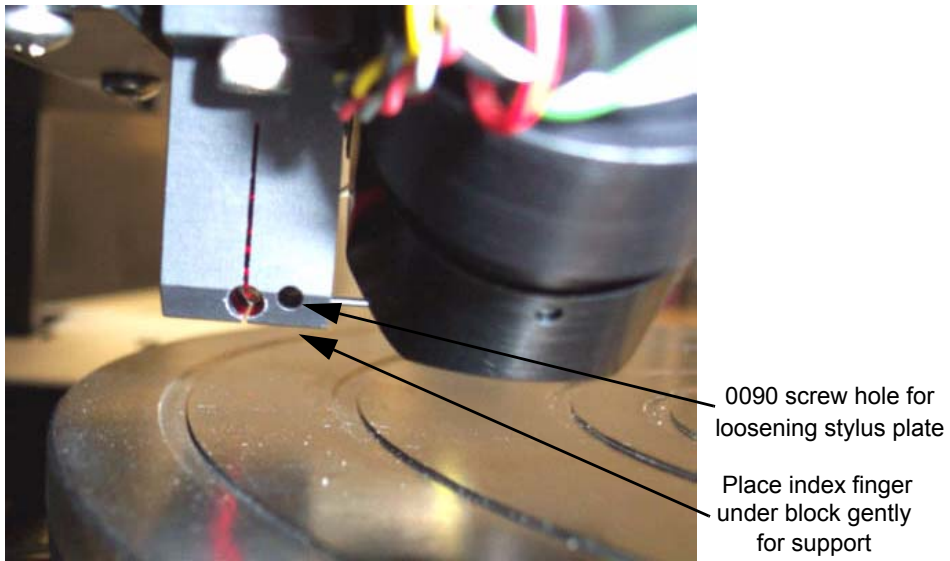

Figure 9.1: The 0090 hole to the right of the slightly larger slotted hole.
3. Figure 9.1 is a picture of the measurement head taken from the left side of the instrument. The machine #0090 screw is located on the left side of the stylus and is accessed from a thru-hole in the sensor mount by a small screwdriver.